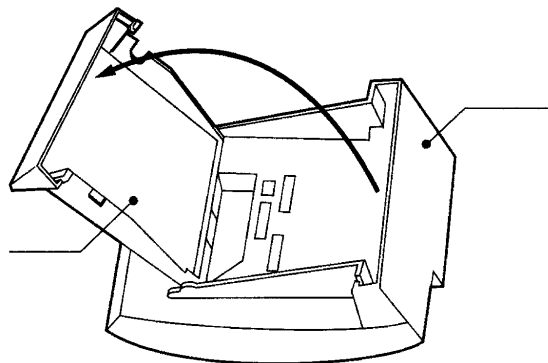

Figure 6-34: Removing Bottom Cover
- Open and remove Bottom Cover by rotating counterclockwise as shown in *Figure 6-34: Removing Bottom Cover*.